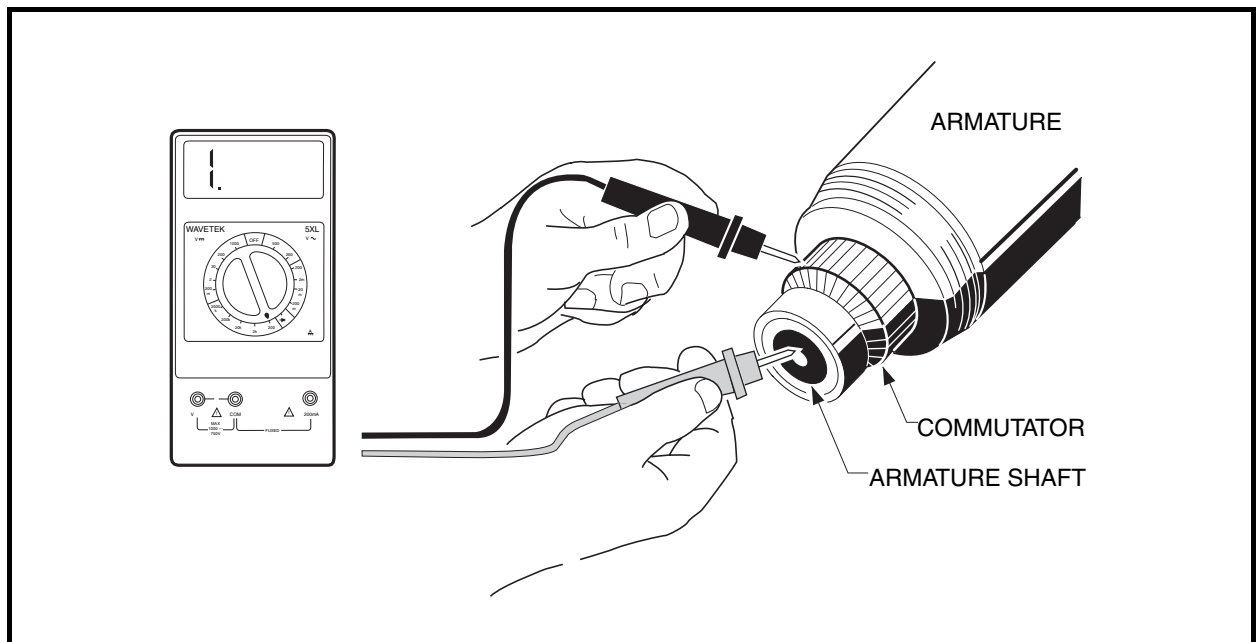

Figure 12-12 Armature Ground Test
1. Using a multimeter set on 200 ohms, place the positive (+) probe on the commutator bars and the negative (-) probe on the armature core. The reading should be no continuity. If the reading is incorrect, replace the armature and the two bearings (**Figure 12-12, Page 12-8**).